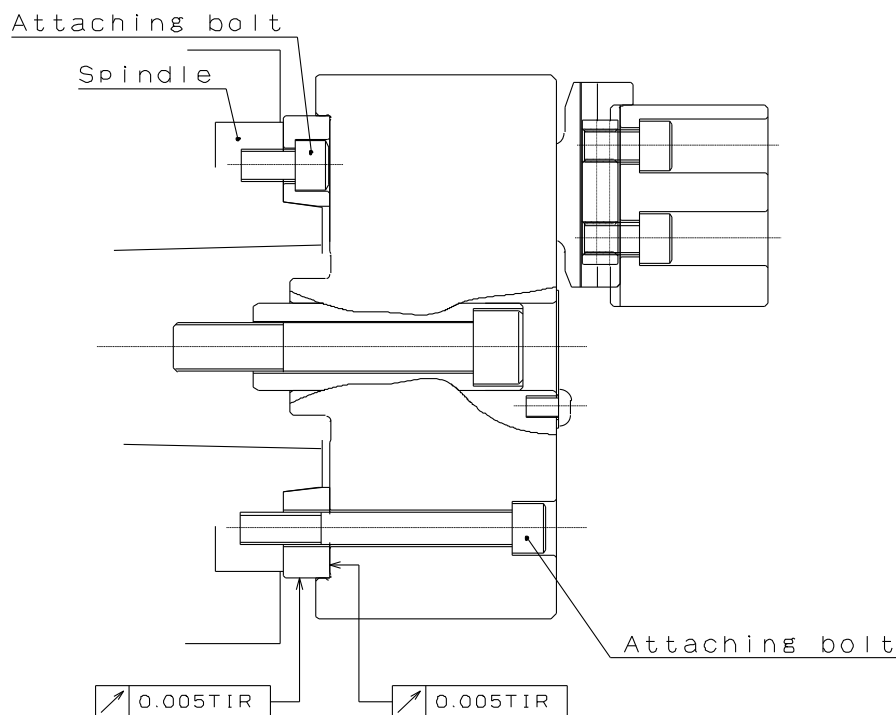

Fig.18
- Fig.18 shows the case of the JIS short taper standard.